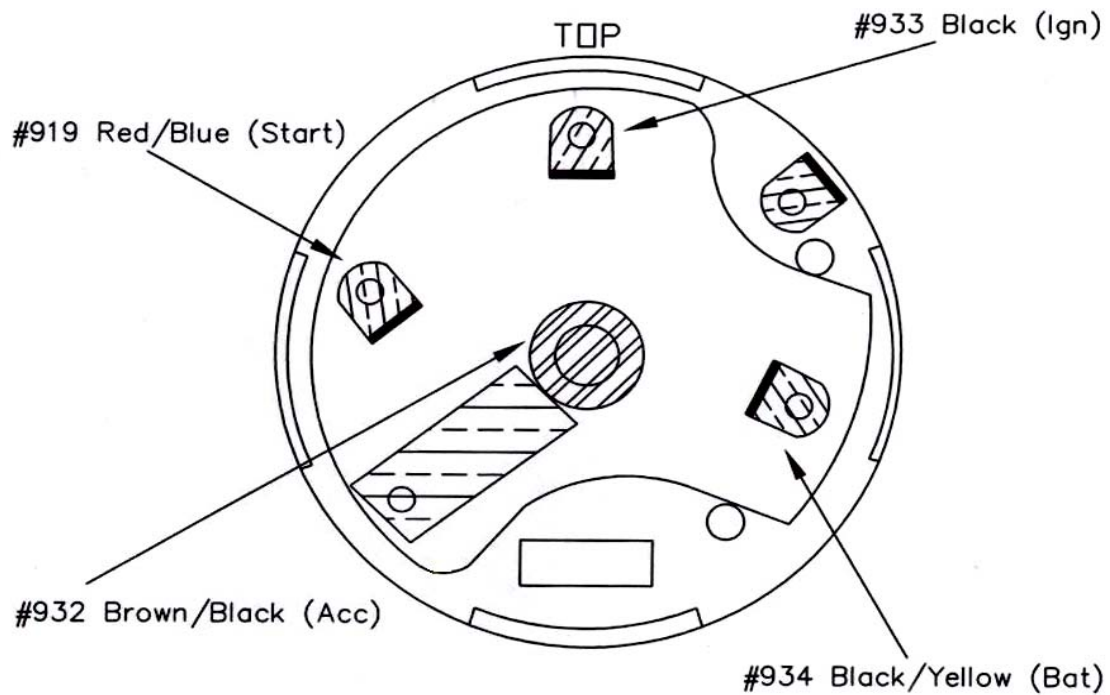

Figure 7-41 1967 Ford Truck Ignition Switch
7.19.1 When installing Painless Wiring Harness Part Number 10117 1967-1977 Ford Truck harness without switches it will be necessary to use Figures 7-41 thru 7-44. Each Figure corresponds with a specific year(s) of Ford Truck. Locate the year of truck being rewired and connect the new harness Ignition Switch wires to the Ignition Switch as indicated. **NOTE: ON 1968-70 Ford Truck Ignition switches it will be necessary to reuse the original connector from the original harness. Butt splice terminals have been provided in the parts kit to reuse a small portion of the original wires in the connector and splice it onto the new harnesses wires.**